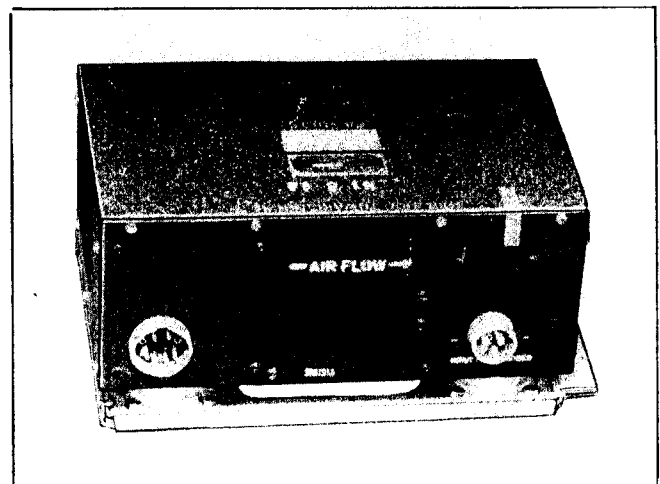

Figure 1-5. Dynamotor Unit PE-94-C with Mounting FT-498
(2) DYNAMOTOR UNIT PE-94-C AND PE-98-F.—The physical description of Dynamotor Unit PE-94-C and PE-98-F is the same as the description of Dynamotor Unit PE-94-A, PE-94-B, PE-98-A, PE-98-D, and PE-98-E except that Dynamotor Unit PE-94-C and PE-98-F are mounted on metal plates bolted to the shockmounts. The plates are fastened to Mounting FT-498 by fasteners that can be manipulated with the fingers. (See fig. 1-5.)